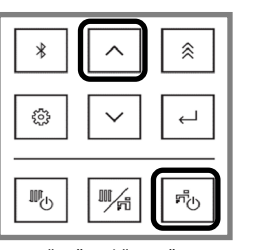

Fig 9. "Up" and "DHW" Buttons
- Press and hold the "DHW" button for two seconds and then the **▲ (Up)** button simultaneously (Fig 9).